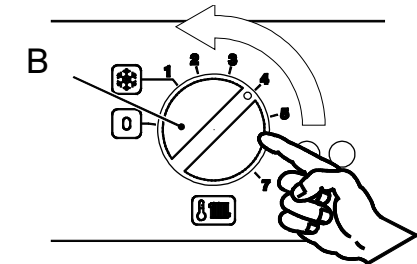

Figure 6.1
- If the ambient temperature is too high, do not alter the radiator valves. Reduce the central heating temperature instead by means of the room thermostat and the knob (B in Fig. 6.1).